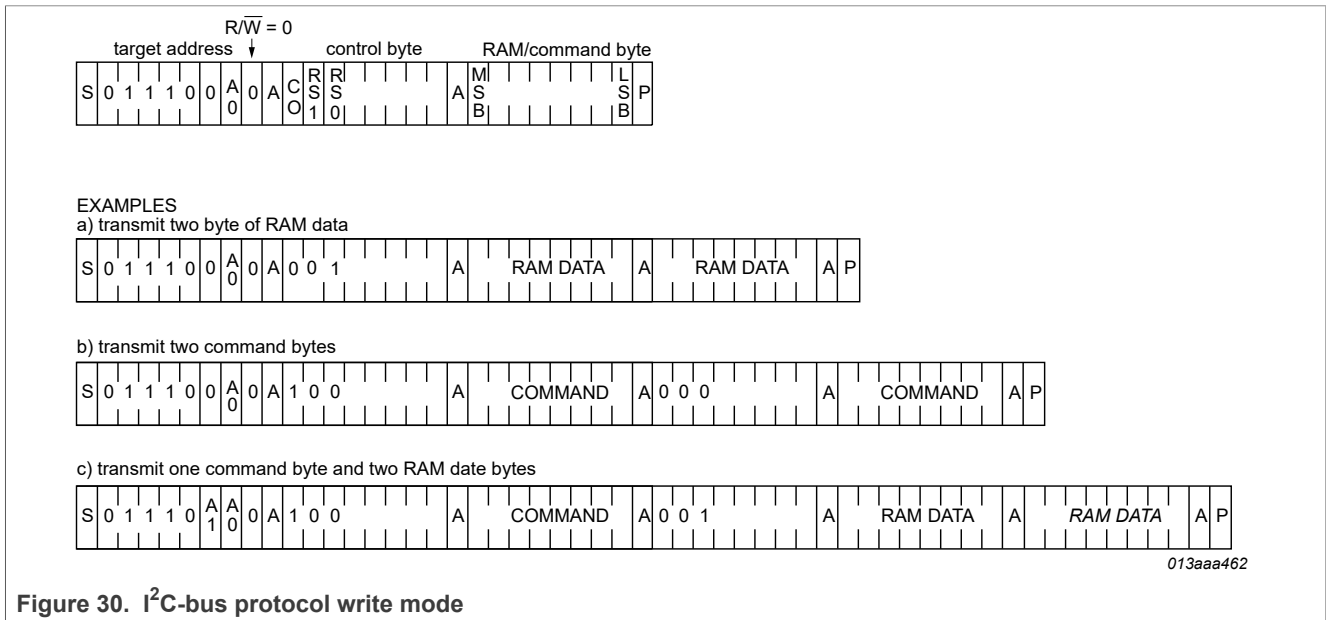

Figure 30. I²C-bus protocol write mode
The I²C-bus protocol is shown in Figure 30. The sequence is initiated with a START condition (S) from the I²C-bus controller which is followed by one of the two PCF8545 target addresses available. All PCF8545 with the corresponding A0 level acknowledge in parallel to the target address. But any PCF8545 with the alternative A0 level ignore the whole I²C-bus transfer.